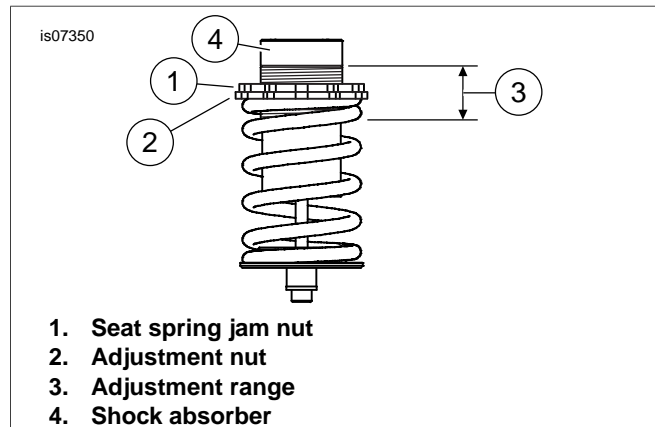

Figure 4. Seat Adjustment
- See Figure 4. Range of adjustment (3) must be kept within 0.7-1.1 in (17.7-27.7 mm) from the top of the shock absorber (4, part of the seat spring assembly). Settings outside this range may result in failure of seat suspension components.
- Loosen the seat spring jam nut (1).
- Rotate the adjustment nut (2) clockwise to compensate for a heavier rider, or counterclockwise for a lighter rider. Each full rotation adjusts for approximately 12.5 lb (5.7 kg) of rider weight.